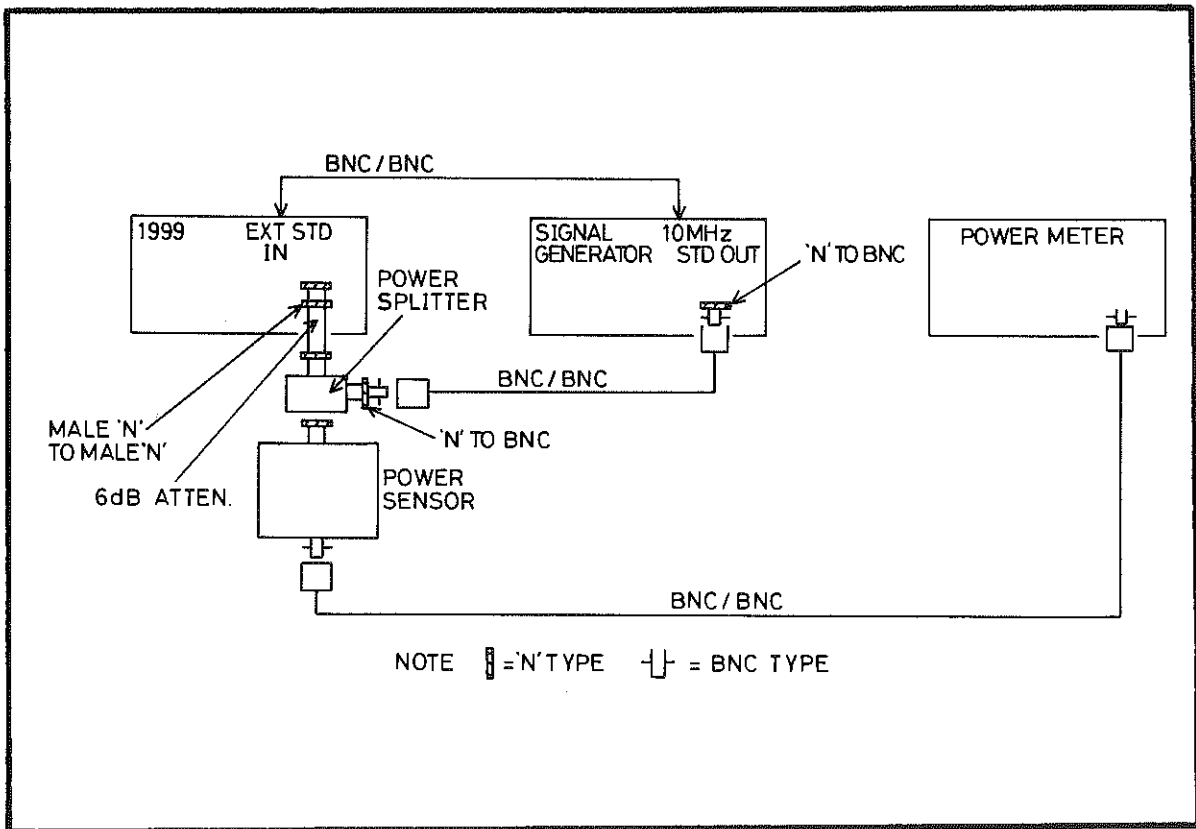

Fig 7.24 Connections for the 1999 Channel B Sensitivity PVP
- (1) Connect the test equipment as shown in Fig 7.24. Verify that the EXT STD indicator lights.
- (2) Select FREQ B.
- (3) Set the signal generator output to the frequencies shown in Table 7.9 in turn. Set the 1999 gate time to the corresponding value.
- (4) At each frequency, determine the minimum input level to the 1999, as indicated on the power meter, which gives stable counting. Verify that this is not more than the level shown in the table.
- (5) Disconnect the test equipment.